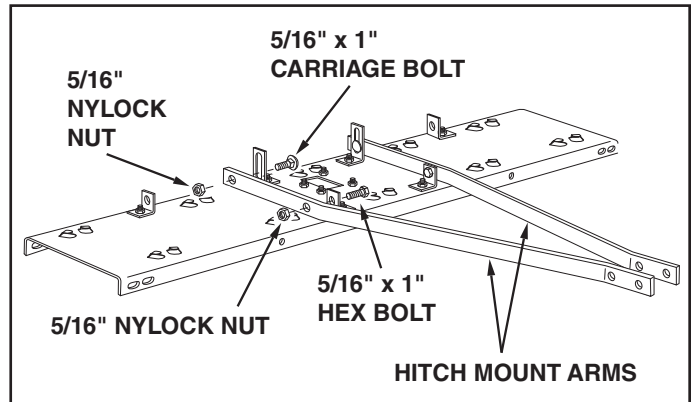

FIGURE 3
5. Fasten the hitch mount arms to the outside of the angle brackets at the front of the tine shield. Use two 5/16" x 1" hex bolts and 5/16" nylock nuts. **Tighten** and then **loosen** the nuts slightly. See figure 3.
6. Fasten the hitch mount arms to the outside of the hitch arm mount brackets at the rear of the tine shield. Use two 5/16" x 1" carriage bolts, and 5/16" nylock nuts. **Do not tighten yet.** See figure 3. **Be sure to use carriage bolts for the rear hitch arm mount brackets and not hex bolts.**